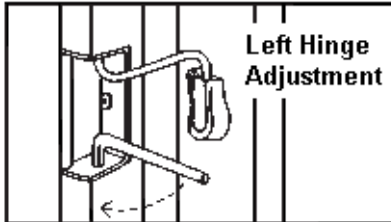
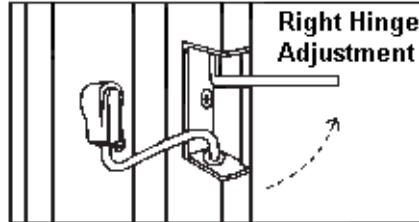

Figure 7
Figure 8
- For left hand adjustment refer to Figure 7 , for right hand door adjustment refer to Figure 8 .